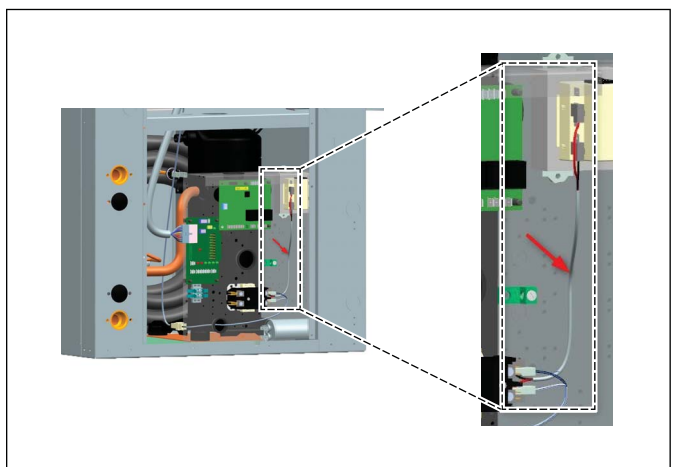

Figure 34
4. At the Unit Control Box, locate and unplug the transformer harness at both ends (figure 34). Discard this wire.